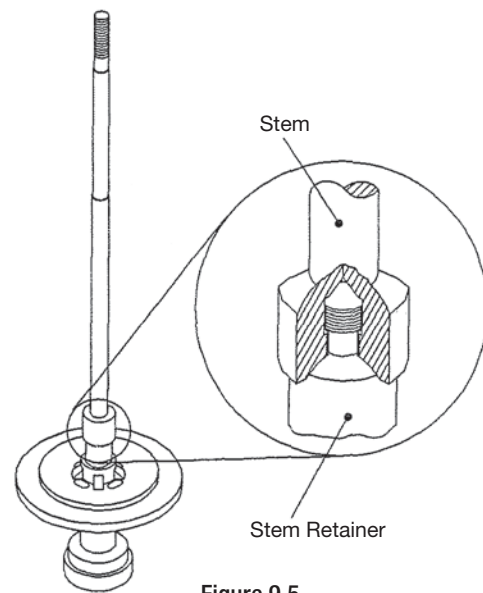

Figure 9.5
12. Thread the **Stem** [9] and **Stem Retainer** [14] together. Be sure this connection is free-floating. (**Figure 9.5**)